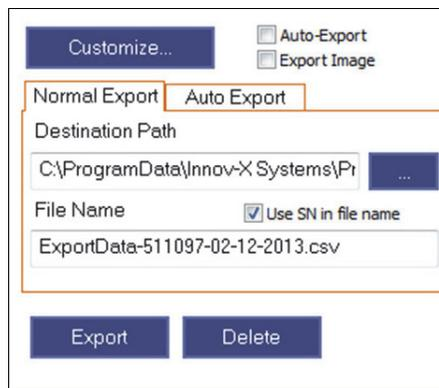

Figure 1-27 The Normal Export tab
7. If you wish to change the default destination path, click the ellipsis button () and use the **Save As** dialog box to specify a new **Destination Path** (see Figure 1-27 on page 22).